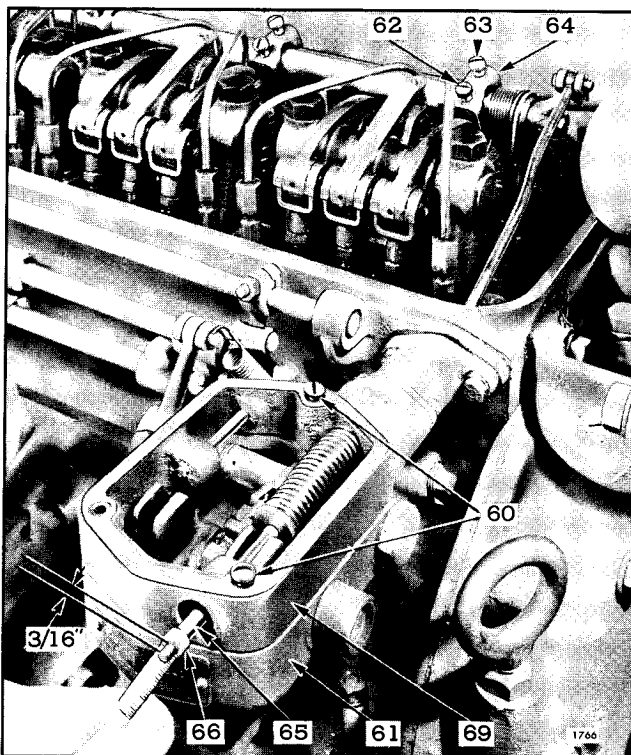

Fig. 1 - Adjusting Fuel Rod
1. Remove governor cover. Refer to Fig. 1 and loosen all inner adjusting screws (62) and outer adjusting screws (63). Be sure all control levers (64) are free on the injector control tube.
2. Loosen fuel rod lock nut (66), and remove fuel rod knob.